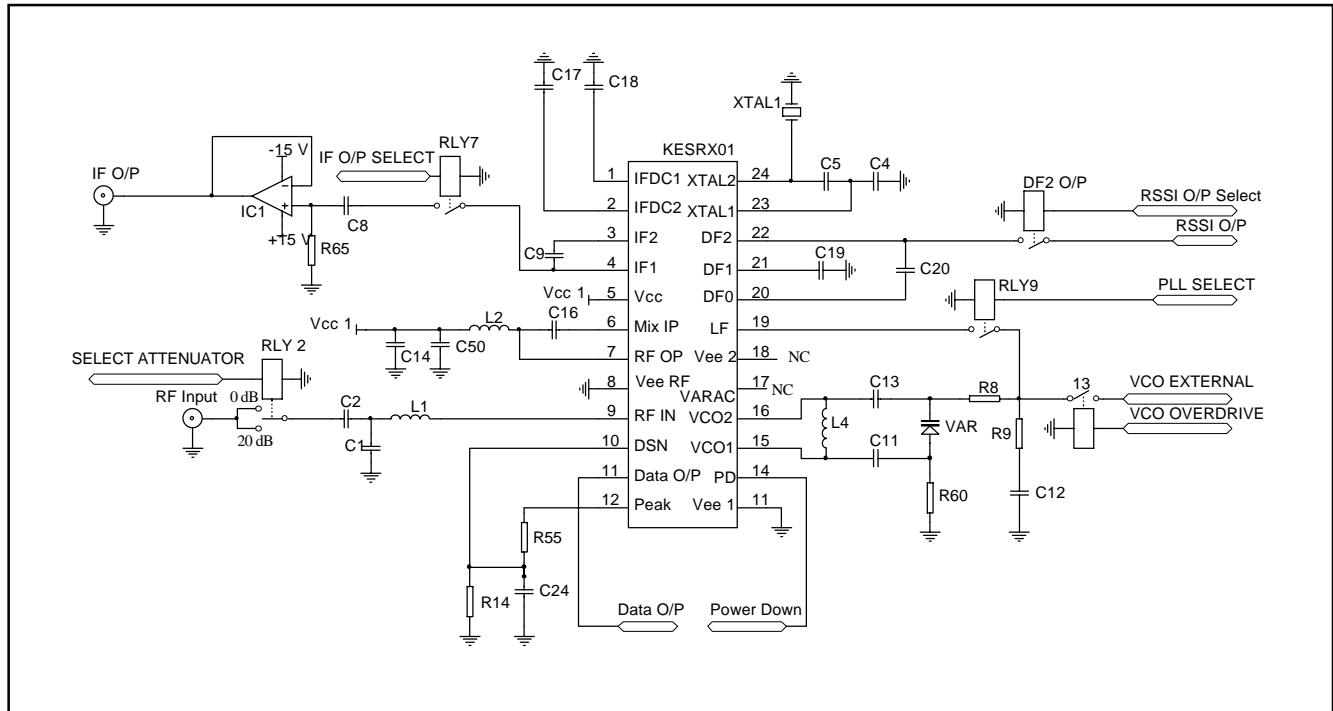
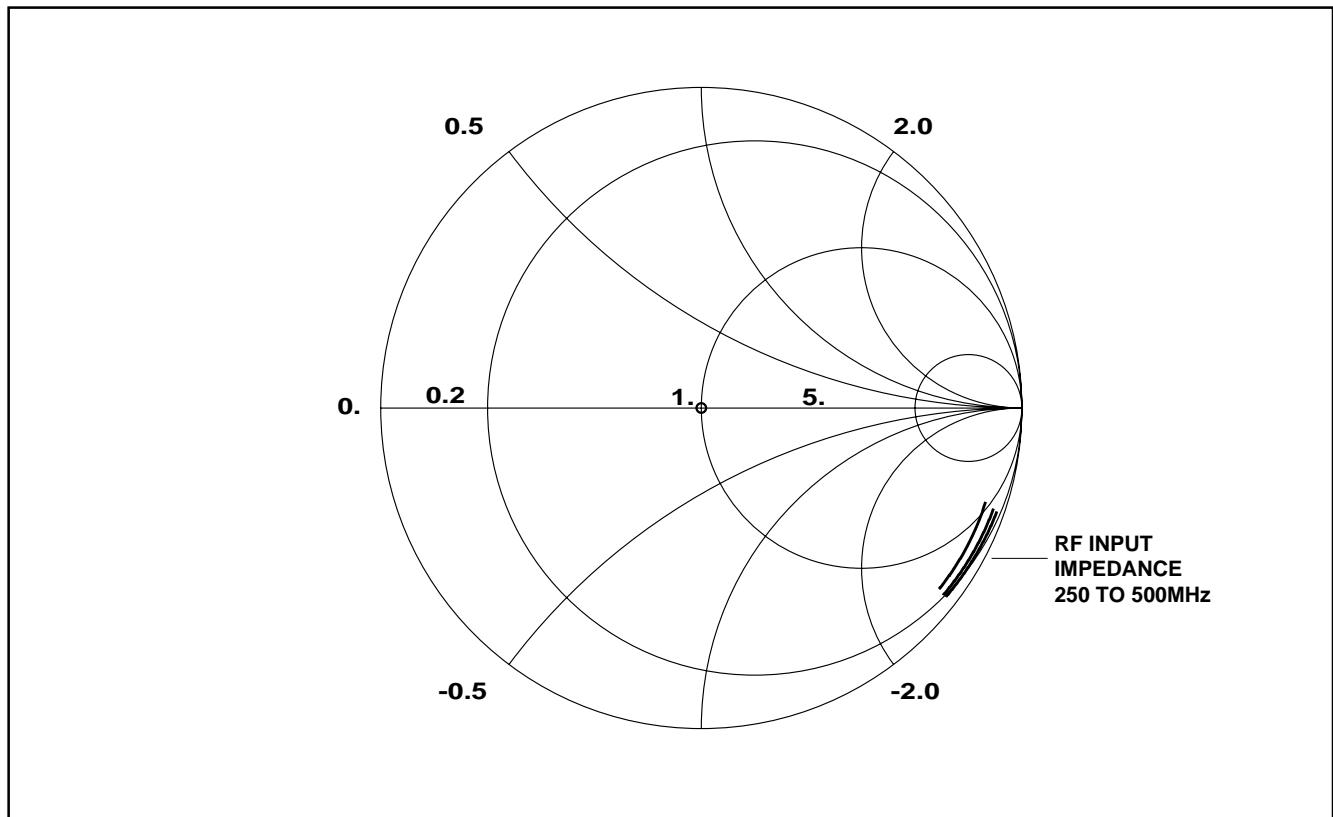

Fig. 6 KESRX01 Test circuit at 434MHz (peak detector slice mode)
Fig. 9 KESRX01 LNA input impedance at -40, 27 and +85 degrees
1. Sensitivity is defined as the minimum average signal level measured at the input necessary to achieve a bit error ratio of  $10^{-2}$  where the input signal is a return to zero pulse (RZ) with an average duty cycle of 50%. The RF input is assumed to be matched into  $50\Omega$ . Measured in test circuit Fig. 6 with data filter bandwidth of 5KHz as shown and for a 2Kbit/s, 50% duty cycle signal.
2. Signal handling is defined as the maximum input signal capable of being successfully de-modulated. It is assumed the input is ASK modulated with an extinction ratio of a least 40dB. The combination of this specification together with the sensitivity specification gives a minimum signal handling range of 76dB. The RF input is assumed to be matched into  $50\Omega$ . Measured in test circuit Fig. 6. with data filter bandwidth of 5KHz as shown.
For the intended application a 2nd order loop should be sufficient as shown in the test circuit Fig. 6.
A crystal stabilised oscillator provides a reference clock for the PLL. The oscillator is configured for parallel resonant operation in the fundamental mode (typical operating frequency of 4–7MHz). The crystal is connected between pins XTAL1, XTAL2 with external components as shown in Fig. 6. Note that this is a single transistor Colpitts oscillator where the external load capacitors must be taken into account in specifying the crystal. See Application Note AN207.
The RF amplifier consists of a low noise transistor in a common emitter configuration. A separate emitter connection is provided (VEERF) to reduce sensitivity to any common impedance in this path. The amplifier is current source biased so the signal (RFIN) should be a.c. coupled. The collector is open circuit so that the gain can be set with an external tuned load, Fig. 6. Its input impedance is given in Fig. 9 and output impedance in Fig. 10.
In digital radio systems, sensitivity is often defined as the lowest signal level at the receiver input that will achieve a specified Bit Error Ratio (BER) at the output. The sensitivity of the KESRX01 receiver, when used in the 434MHz application shown in Fig. 6, is typically  $-103\text{dBm}$  average power (ASK modulated with 2kHz, 50% duty cycle square wave) to achieve a 0.01 BER. The input was matched for a  $50\Omega$  signal source. At 315MHz,  $-105\text{dBm}$  average power is typically achievable. Consult the Applications Notes referred to at the end of this Datasheet for detailed PCB design issues to secure performance.